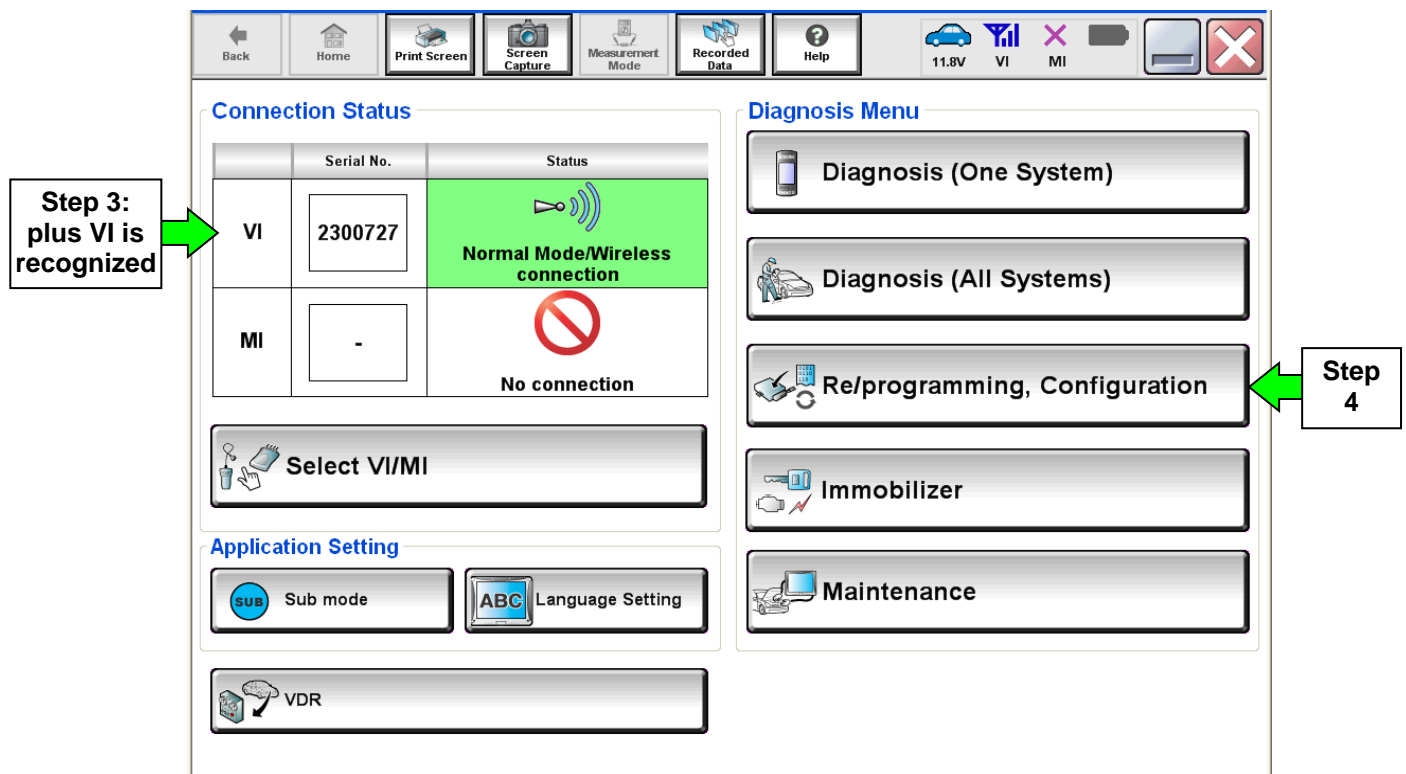

Figure 1D
1. Return to the C-III plus Home screen (see Figure 1D).